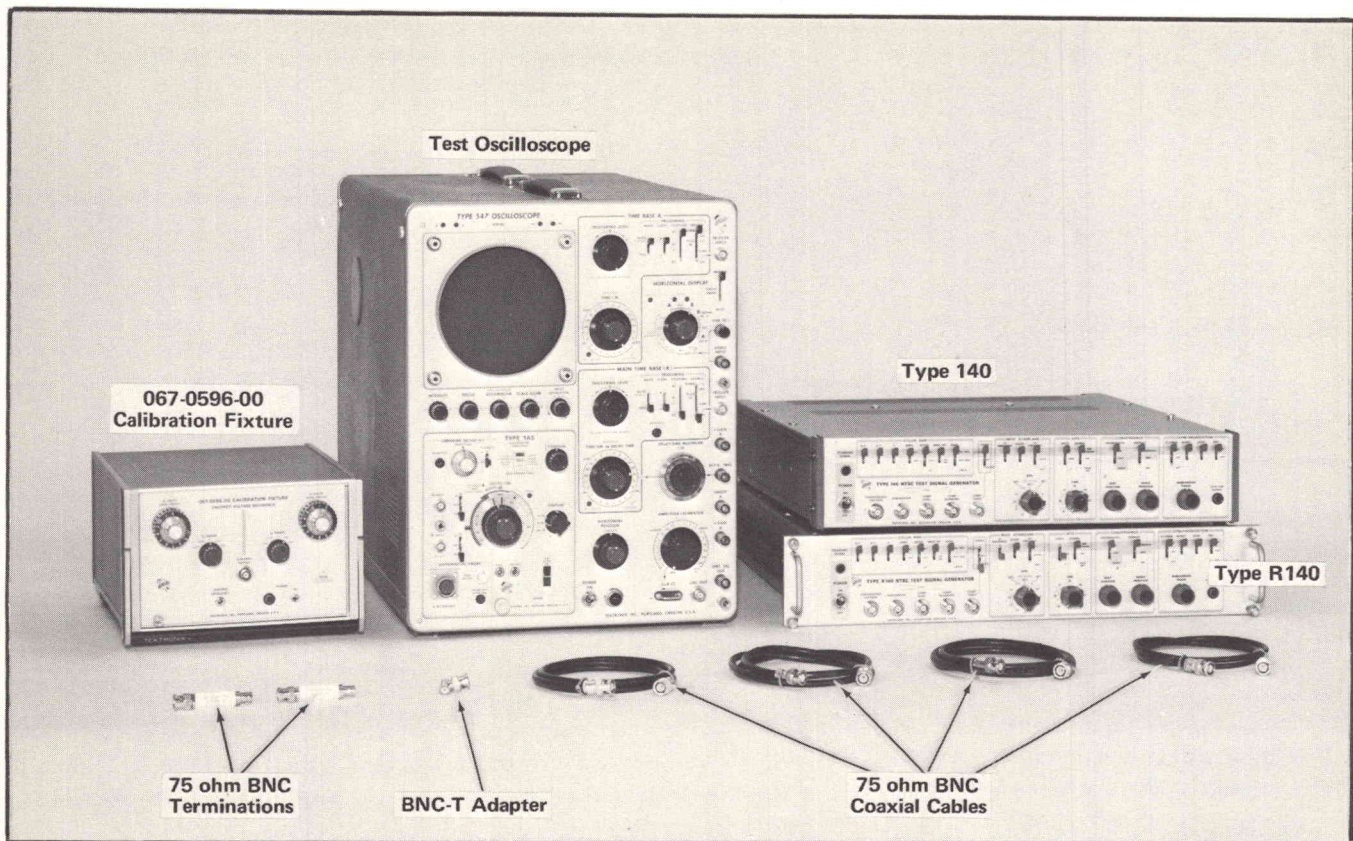

Fig. 5-35. Test equipment required for steps 32 through 42.
32. Check/Adjust Staircase Level Amplitudes ①
a. Test equipment is shown in Fig. 5-35.